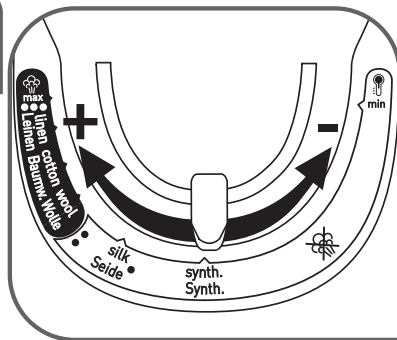

Fig.7
- Adjust the temperature – **fig.7**. Your iron has the Autosteam Control function. Your iron automatically and accurately determines the exact temperature and steam flow that are suitable, in order to guarantee the best results.